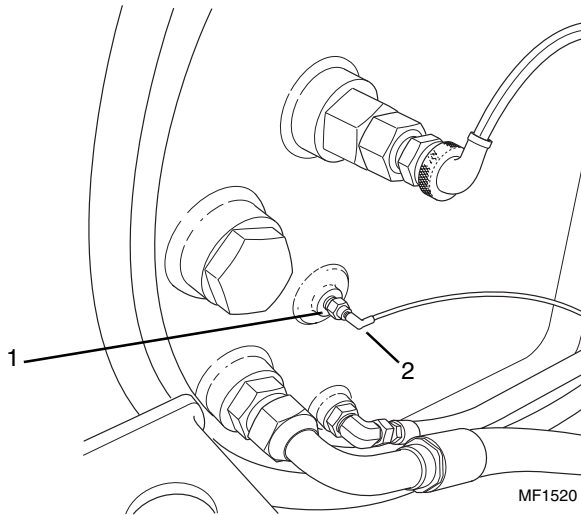

Figure 8-7 Hydraulic Oil Temperature Switch
The hydraulic oil temperature switch is located near the bottom of the hydraulic oil reservoir (Fig. 8-7, 1), inside the engine compartment. The switch measures the temperature of the hydraulic system oil.
2. Open the engine compartment door, reach in and pull the wire connector (Fig. 8-7, 2) off the switch terminal.